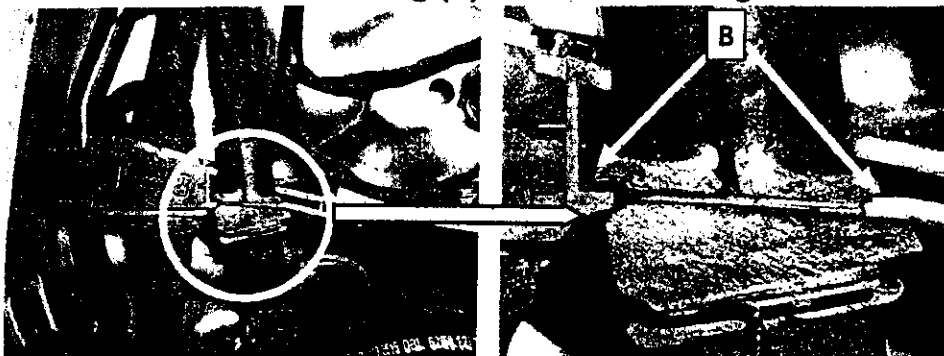

Figure 14: Repositioning SBC wiring harness
- b. Reposition SBC wiring harness towards the front so that routing can be modified (Figure 14)